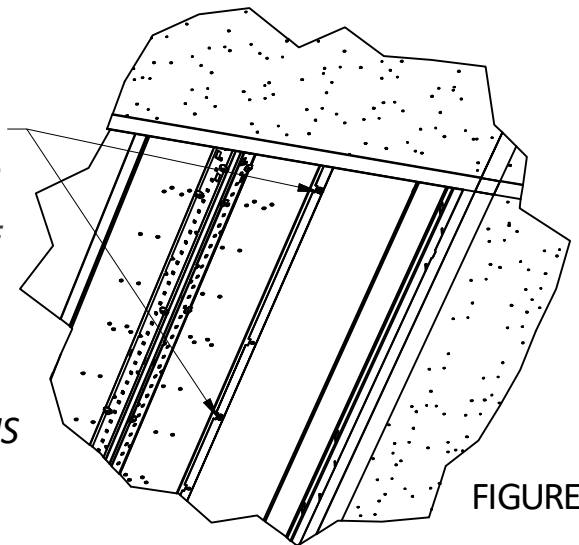

FIGURE 4
**TO ACCESS WIRE COMPARTMENT REMOVE THE WIREWAY COVER SCREWS AND REMOVE COVER. (SEE FIGURE 4)**
*POUR ACCÉDER AU COMPARTIMENT DE FIL, ENLEVER LES VIS DU COUVERCLE DU FIL ET ENLEVER LE COUVERCLE. (VOIR FIGURE 4)*